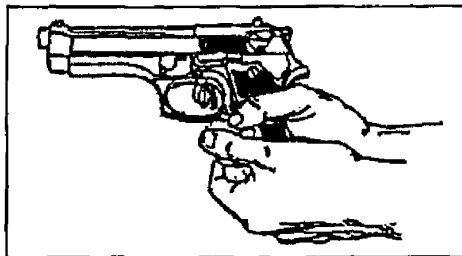

Figure 071-004-0006-4. Palm-supported grip
(3) **Weaver grip** (figure 071-004-0006-5). Apply this grip the same as the fist grip, but wrap your nonfiring thumb over your firing thumb.